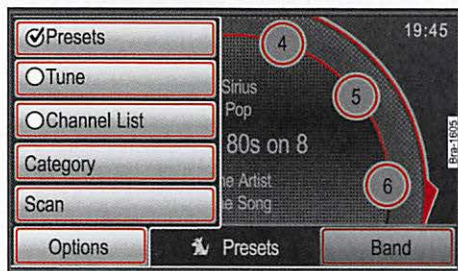

Fig. 14 Station selection options.
- Press the **Options** function button in the *Satellite radio* main menu ⇒ fig. 14.